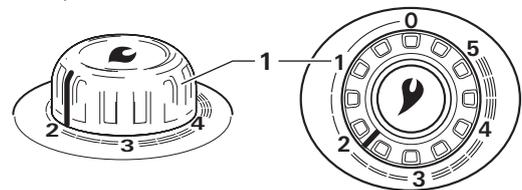

Figure 3
2. Turn the control knob (Figure 3 – 1) to the thermostat position 1 – 5 and push in as far as it will go (maximum 30 seconds). Ignition with an audible ignition spark takes place automatically in this period.
i If the flame goes out during operation, immediate automatic re-ignition takes place within the closing time of the safety pilot (approx. 30 seconds). In the event that ignition is unsuccessful despite repeated attempts (e.g. because the gas cylinder is empty), the auto ignitor continues to operate until the control knob (Figure 3 – 1) is set to "0".